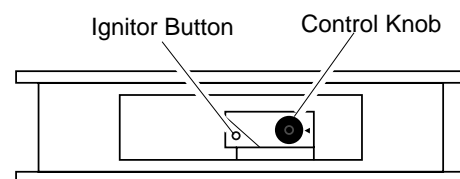

Figure 17 - Control Knob and Ignitor Button Location
4. Wait five (5) minutes to clear out any gas. Then smell for gas, including near the floor. If you smell gas, **STOP!** Follow "B" in the safety information, column 2. If you don't smell gas, go to the next step.
5. Turn control knob counterclockwise  to the PILOT position. Press in control knob for five (5) seconds (see Figure 17).